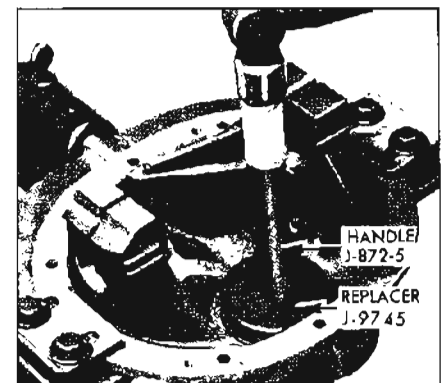

Figure 6-26—Installing Rear Pinion Bearing Outer Race
2. Drive rear pinion bearing outer race against shoulder in carrier using Replacer J-9745 with driver handle. See Figure 6-26.